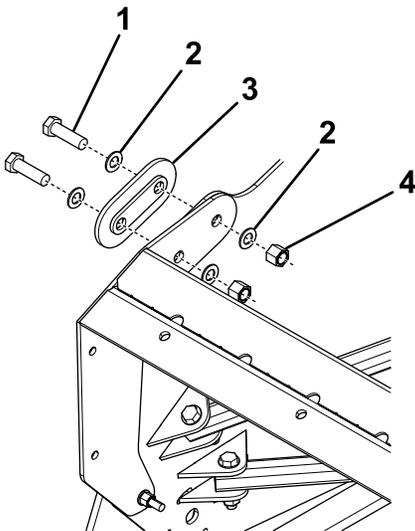

Figure 4
- Secure the top of the blade section to the plow using 2 bolts (3/4 inch), 4 washers (3/4 inch), 1 mounting plate, and 2 locknuts (3/4 inch) as shown in Figure 4.